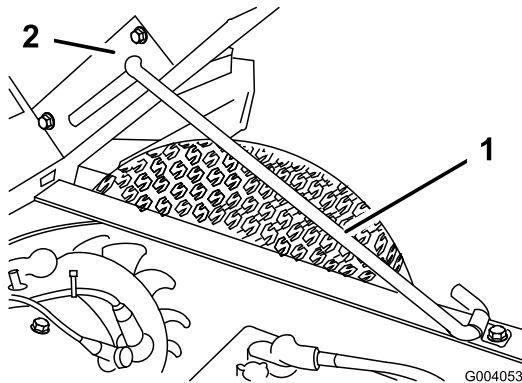

Figure 27
2. Pull the prop rod into the detent slot, securing the box (Figure 27).